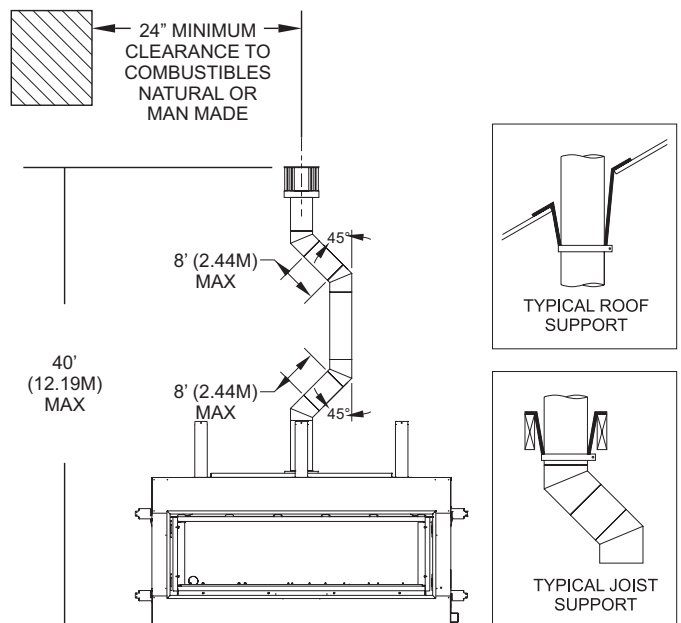

Figure 53
**NOTICE:** Build the chase large enough to maintain the minimum clearance of combustible materials (including insulation) to the vent system. When installing the vent system in a chase, insulate the chase as you would the outside walls of your home. This is especially important in cold climates. Upon completion of chase framing, install the vent system by following the instructions in this manual. The vertical termination cap for this fireplace must not be any closer than 24-in. to combustible materials. See Figure 53.